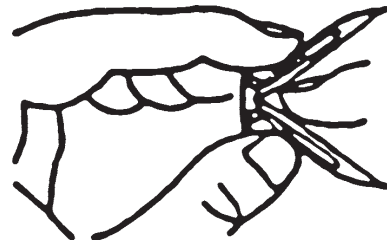

Figure 8- Folding Anchor
2. Fold wall anchor as shown in Figure 8.